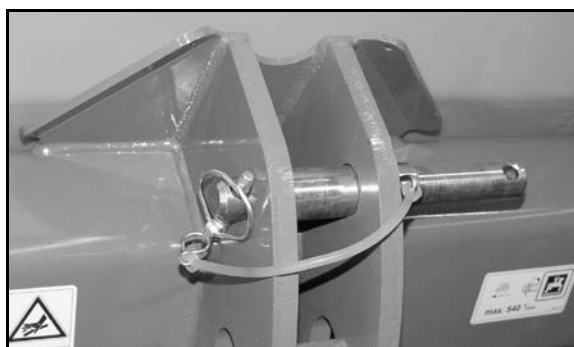

Fig. 28
- svinges bagud (Fig. 28/1) i parkeringsposition.
- svinges fremad (Fig. 28/2) i transportposition.